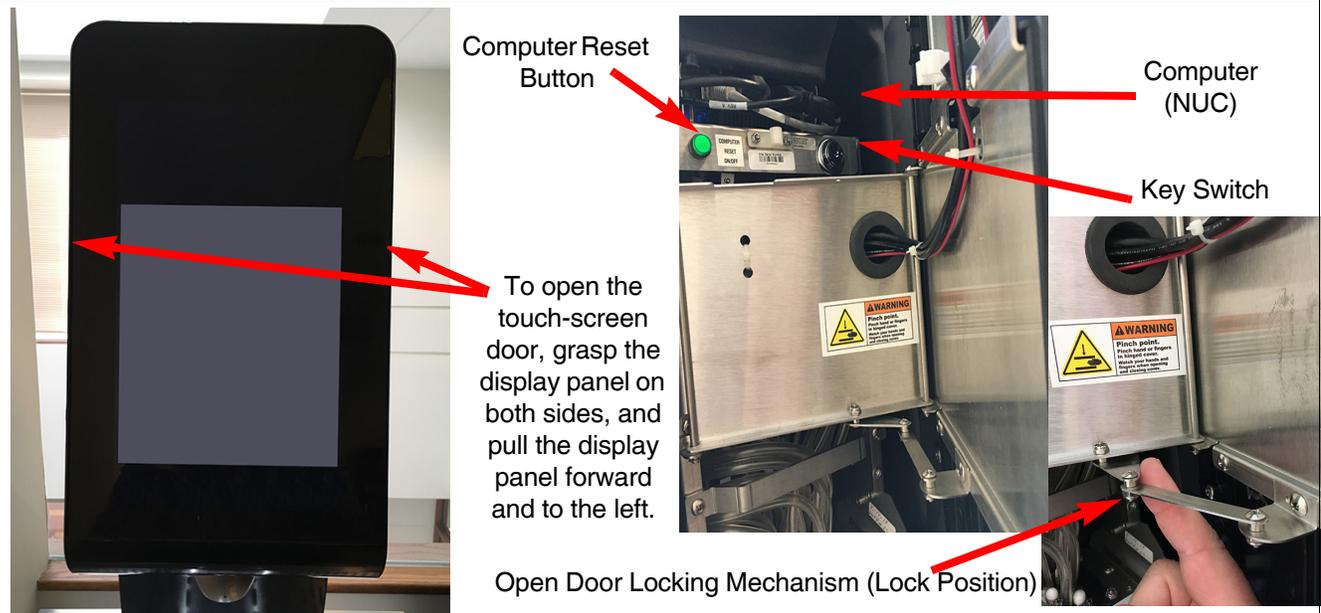

Figure 2
2. If the display does not come on, open the touch screen door by placing both hands on the display screen and pulling forward. See Figure 2 left.
3. With the door in the 90° position locate the **Open-Door Locking Mechanism** (see Figure 2 lower right) and pull the mechanism out to stabilize the opened door. Then, move the display panel to the left, away from the unit.
4. With the door open, on the inside of the unit, locate the **Key Switch** and turn it to the ON position. (See Figure 2 middle).